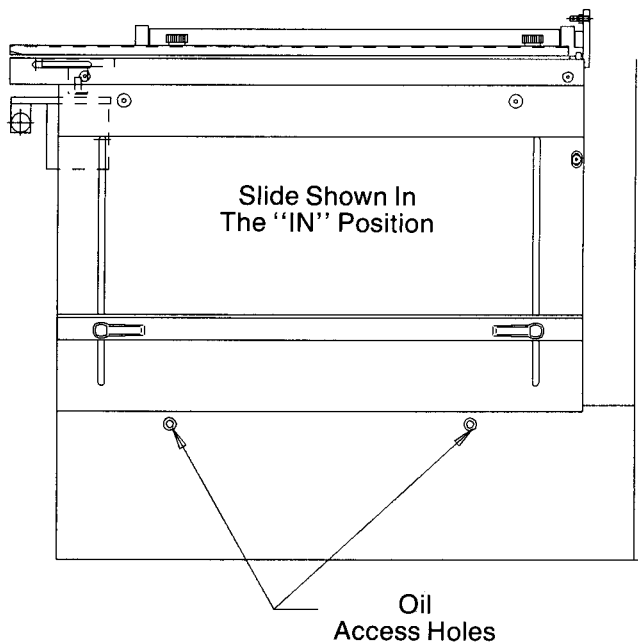

Figure 14
1. There are two oil access holes located in the panel under the slide (see Figure 14). These oil access holes are used to apply oil to the guide shafts for the slide. A lightweight machine oil should be used to lubricate the shafts approximately every two weeks. **The following steps are recommended:**